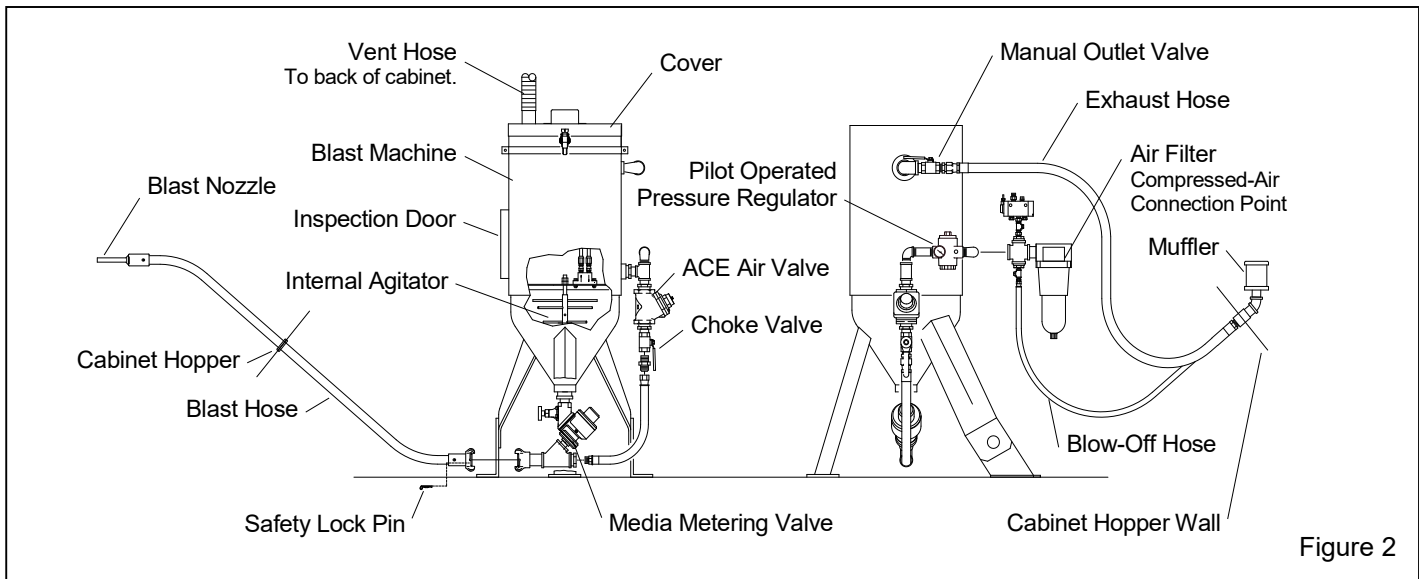

Figure 2
- Figure 2 - Blast machine arrangement and callouts
1.6.1 Components of the machine are shown are shown in Figure 2. They include the blast machine, manual depressurization valve (outlet valve), internal agitator assembly, foot-pedal blasting controls, pressure regulator, and air filter.
2.4 Attach Blast Machine Exhaust Hose: Screw the male end of the exhaust hose into the 1" coupling in the hose adaptor plate, located on the cabinet hopper, turning the hose as required. Connect the female swivel end to the male adaptor on the blast-machine outlet valve, as shown in Figure 2.